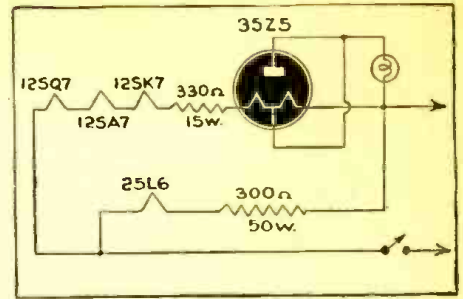

Fig. 2—Here a 25L6 is inserted in place of a 50L6 by using an independent filament line.
After the breaking-in period is over, the next step is to adjust the 7.5-ohm resistor, R4, for the "Wynn-Williams balance." This is done with the galvanometer at low sensitivity. The variable tap of R4 is first set at the extreme left end and the galvanometer brought to zero with the plate controls V1 and V2. The filament voltage is now dropped to 3.8 volts and the resulting galvanometer deflection is read. Suppose it is plus X1. The voltage is now raised to 4.2 volts and the new deflection noted. Call it minus X2. Now the variable tap is moved to the extreme right end and with the filaments at 4 volts the set again balanced with the plate controls. Filament voltages are again dropped to 3.8 and raised to 4.2, and the resultant galvanometer deflections charted at Y1 and Y2. Now draw Fig. 2, first drawing a horizontal line on a sheet of paper 7.5 inches long representing 7.5 ohms. (AB). Draw vertical lines at
Fig. 1, below—Diagram of an ordinary radio circuit, showing how separate units are shown in a "housing" of broken lines. The same symbol is often used in radio drawings to show ordinary shielding. The use of explanatory numerals and letters is also demonstrated. Note the alternate socket types, listed V-101 and V-102. Fig. 2, left—How callouts may be used on installation drawings.